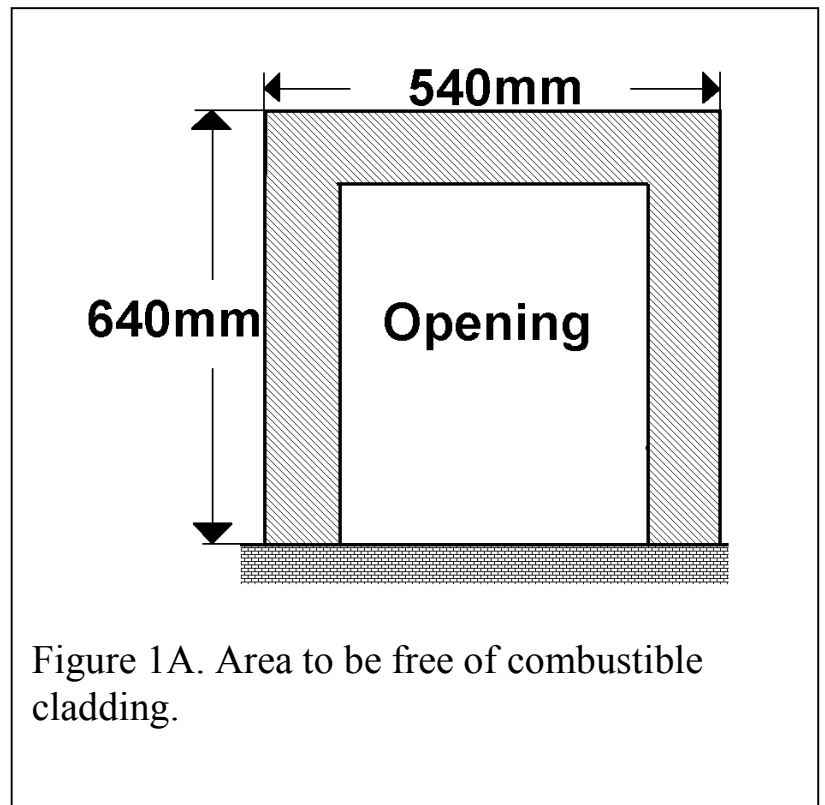

Figure 1A. Area to be free of combustible cladding.
2.16 If the fire is to be fitted against a wall with combustible cladding, the cladding must be removed from the area shown in figure 1A.